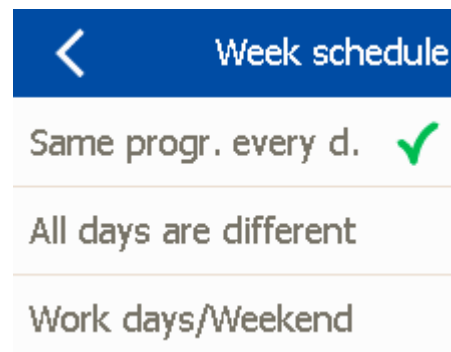

Fig. 85: Week schedule
- ⇒ The 'Week schedule' screen (Fig. 85) displays.
2. ▶ Select a type of schedule (Fig. 85).